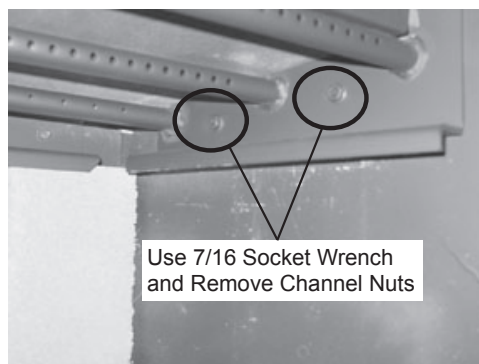

Fig. 25.2
3. Locate the 2 channel nuts inside of chamber and remove using a 7/16 socket wrench. **Figure 25.2.**